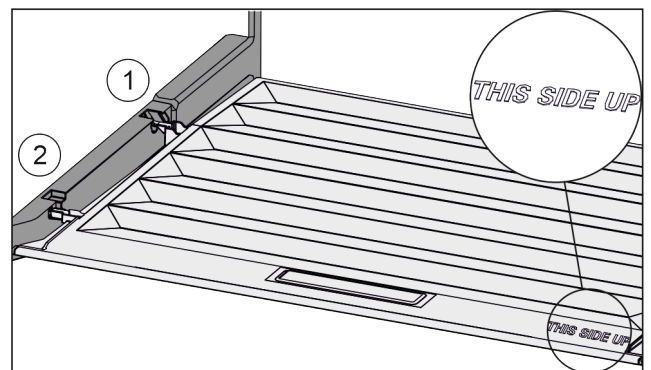

Fig. 141
- ▶ Insert the lip of the cover over the opening of the rear bracket Fig. 141 (1) and click into place Fig. 141 (2).